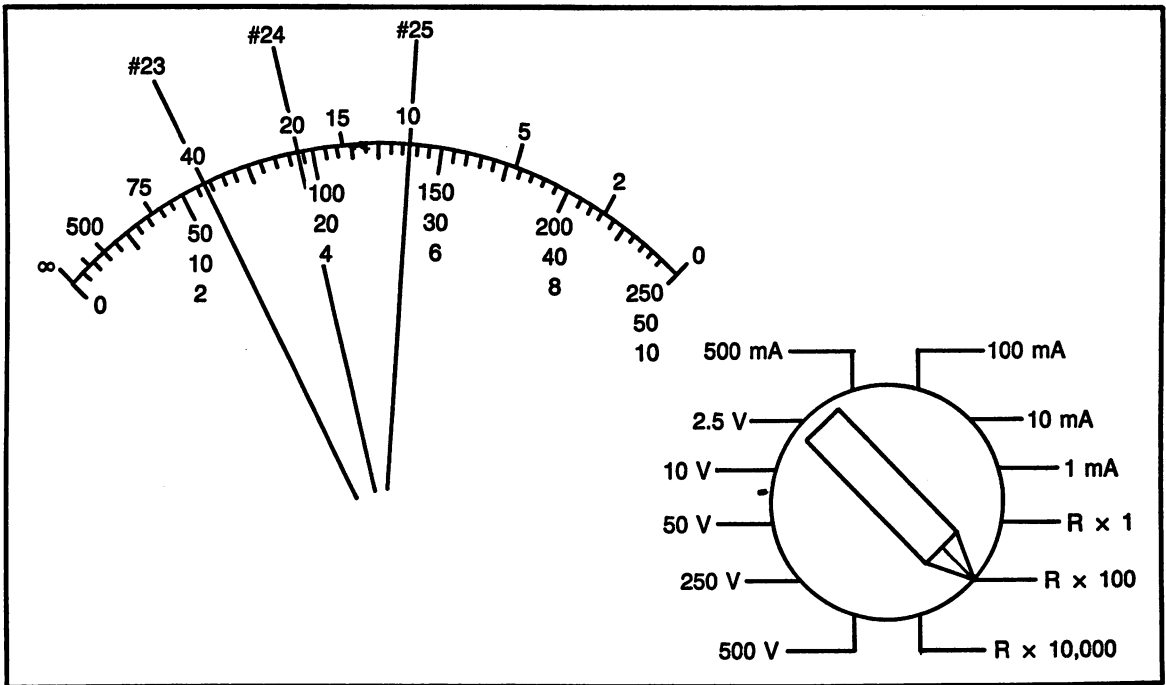

Fig. Ex1-1. Ohmmeter scale for questions 23-25.
- (21) What will the ohmmeter reading be with a good fuse?
- (22) What will the ohmmeter reading be with an open wire?
- (23) Read the meter in Fig. Ex1-1, needle #23
- (24) Read the meter in Fig. Ex1-1, needle #24
- (25) Read the meter in Fig. Ex1-1, needle #25